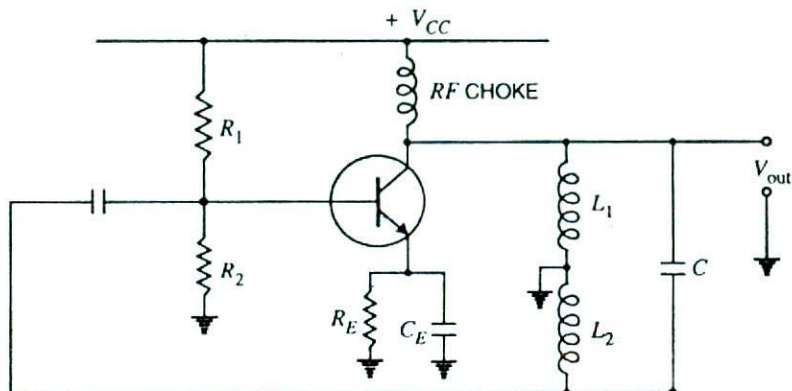

Fig. 16.25
2. Figure 16.25 shows the Hartley oscillator. If $L_1 = 1000 \mu\text{H}$, $L_2 = 100 \mu\text{H}$ and $C = 20 \text{ pF}$, find the (i) operating frequency and (ii) feedback fraction. [(i) 1052 kHz (ii) 0.1]
4. For the Hartley oscillator shown in Fig. 16.25, $C = 250 \text{ pF}$, $L_1 = 1.5 \text{ mH}$, $L_2 = 1.5 \text{ mH}$ and $M = 0.58 \text{ mH}$. Determine the operating frequency. [159.2 kHz]